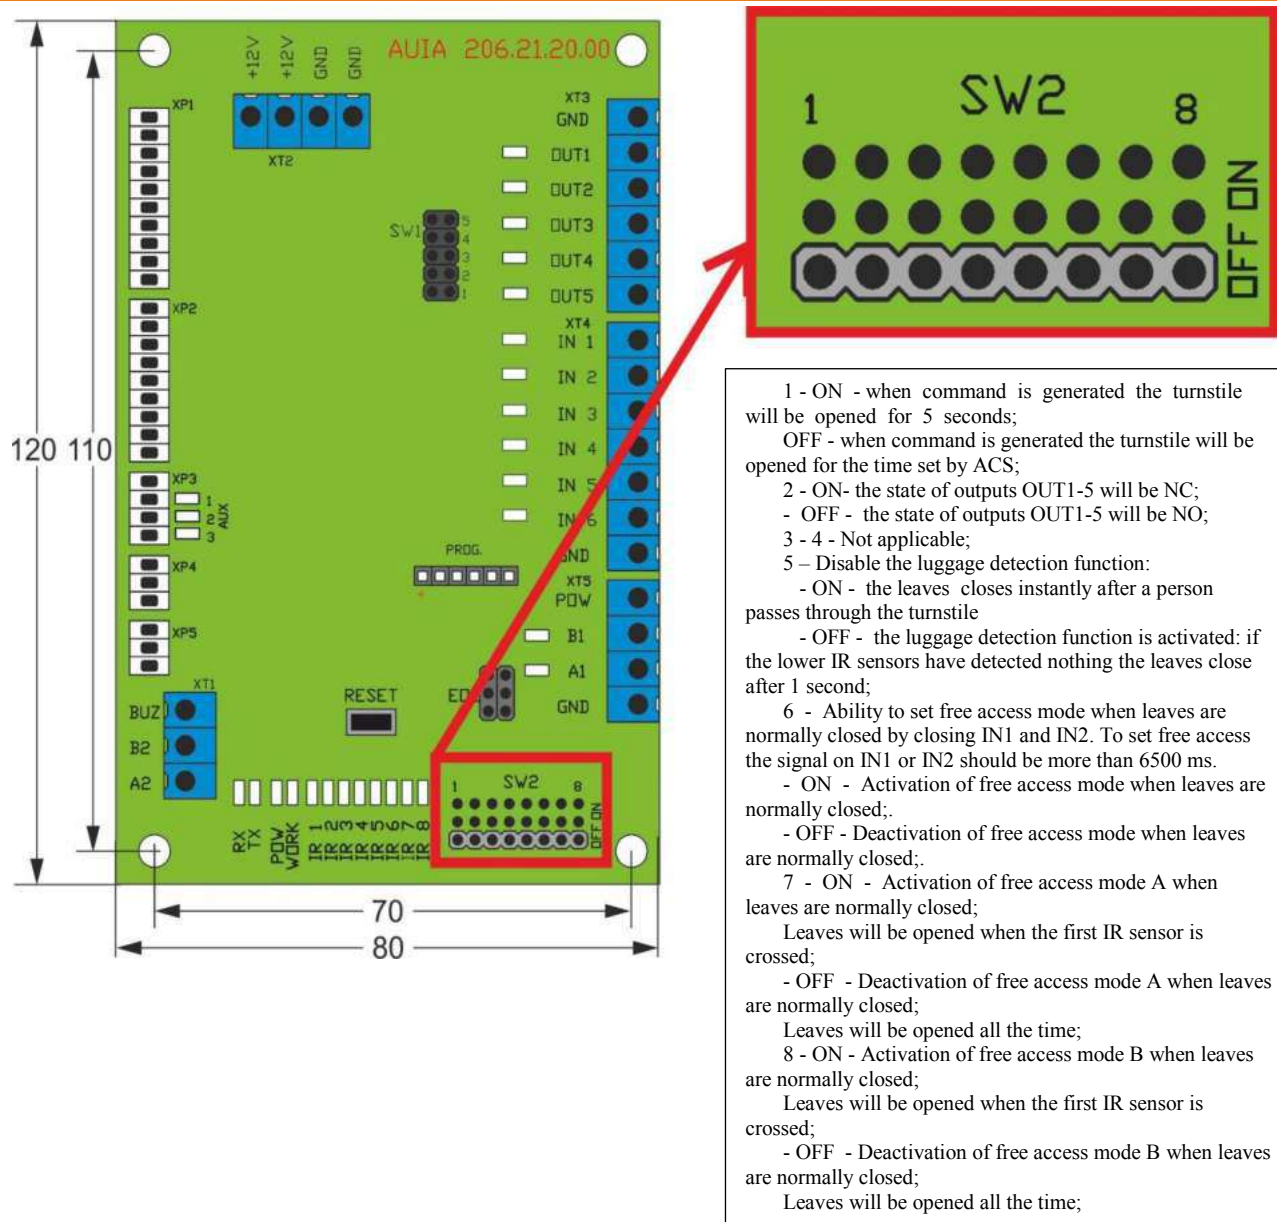

Fig.6 – Appearance and configuration of controller AUJA.206.21.20.00
1.5.1.1 Controller AUIA.206.21.20.00 is shown in *Figure 6*.